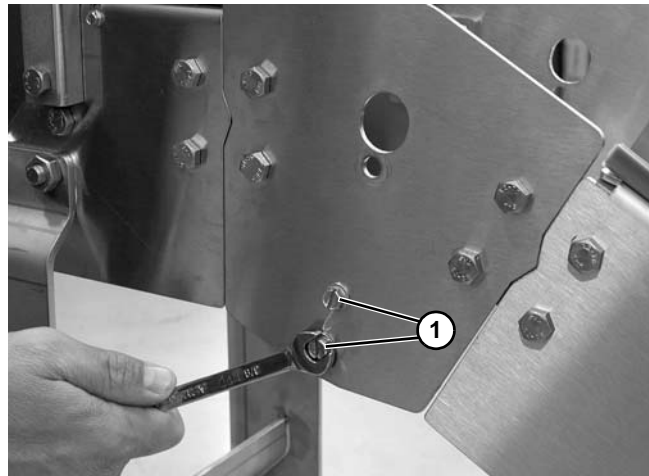
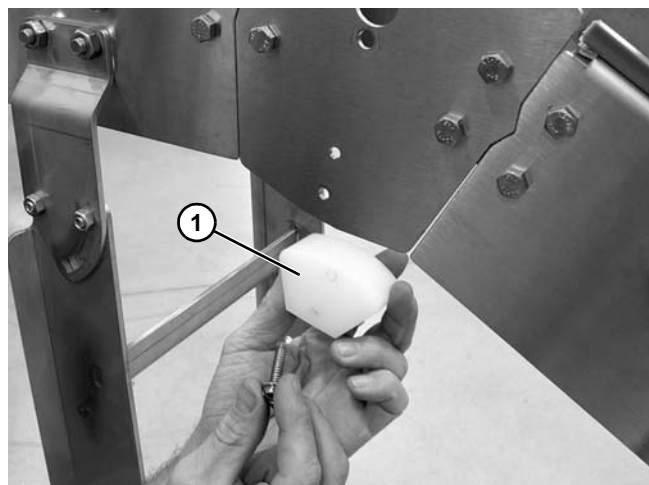

Figure 82
Figure 83
8. Remove two cap screws (**Figure 82, item 1**) and inner belt return guide (**Figure 83, item 1**). Repeat on the opposite side of the conveyor.